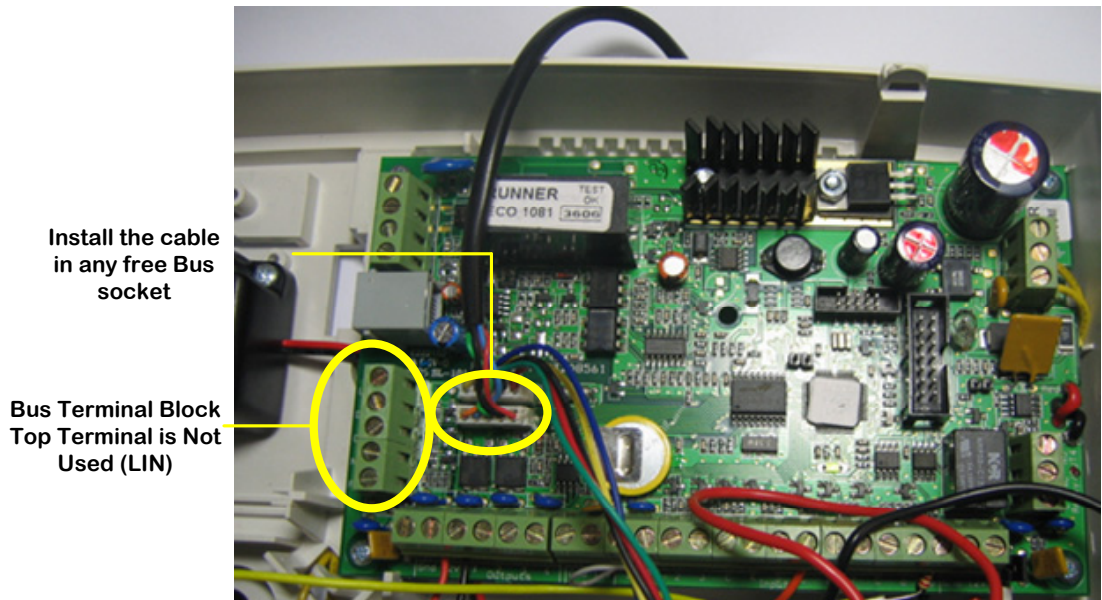
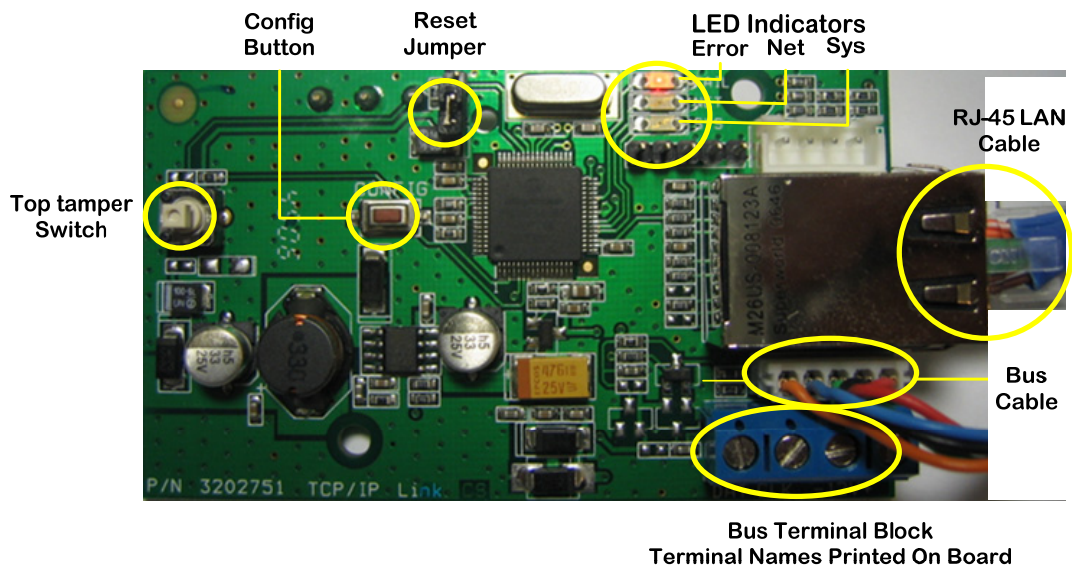

Figure 2 Main Board Bus Connection
Figure 3 Runner Link Board Connections and Locations
2. Connect the RJ-45 LAN cable to the Runner Link board as shown in Figure 2 and Figure 3.
3. Connect the other end of the Bus cable onto the board as shown in Figure 3.
You can also connect discrete wires as shown in the figure below. See also Figure 2 and Figure 3.
- On the **Runner Link** board, press the **Config** button for minimum of 5 seconds. (See figure 3)
1. Using Figure 3 on page 6 as a guide, short the **Reset** jumper pins using the jumper installed on one of the pins.